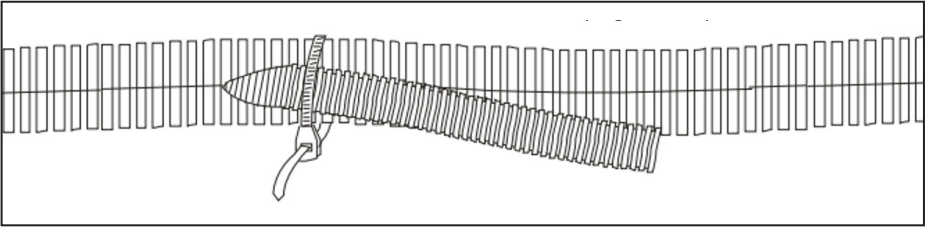

Figure 76 — Loom wire
- Use 1/4 in wire loom or equivalent protection to cover the wires, and secure the VMAC tachometer cable to OEM harness with a cable tie (Figure 76).